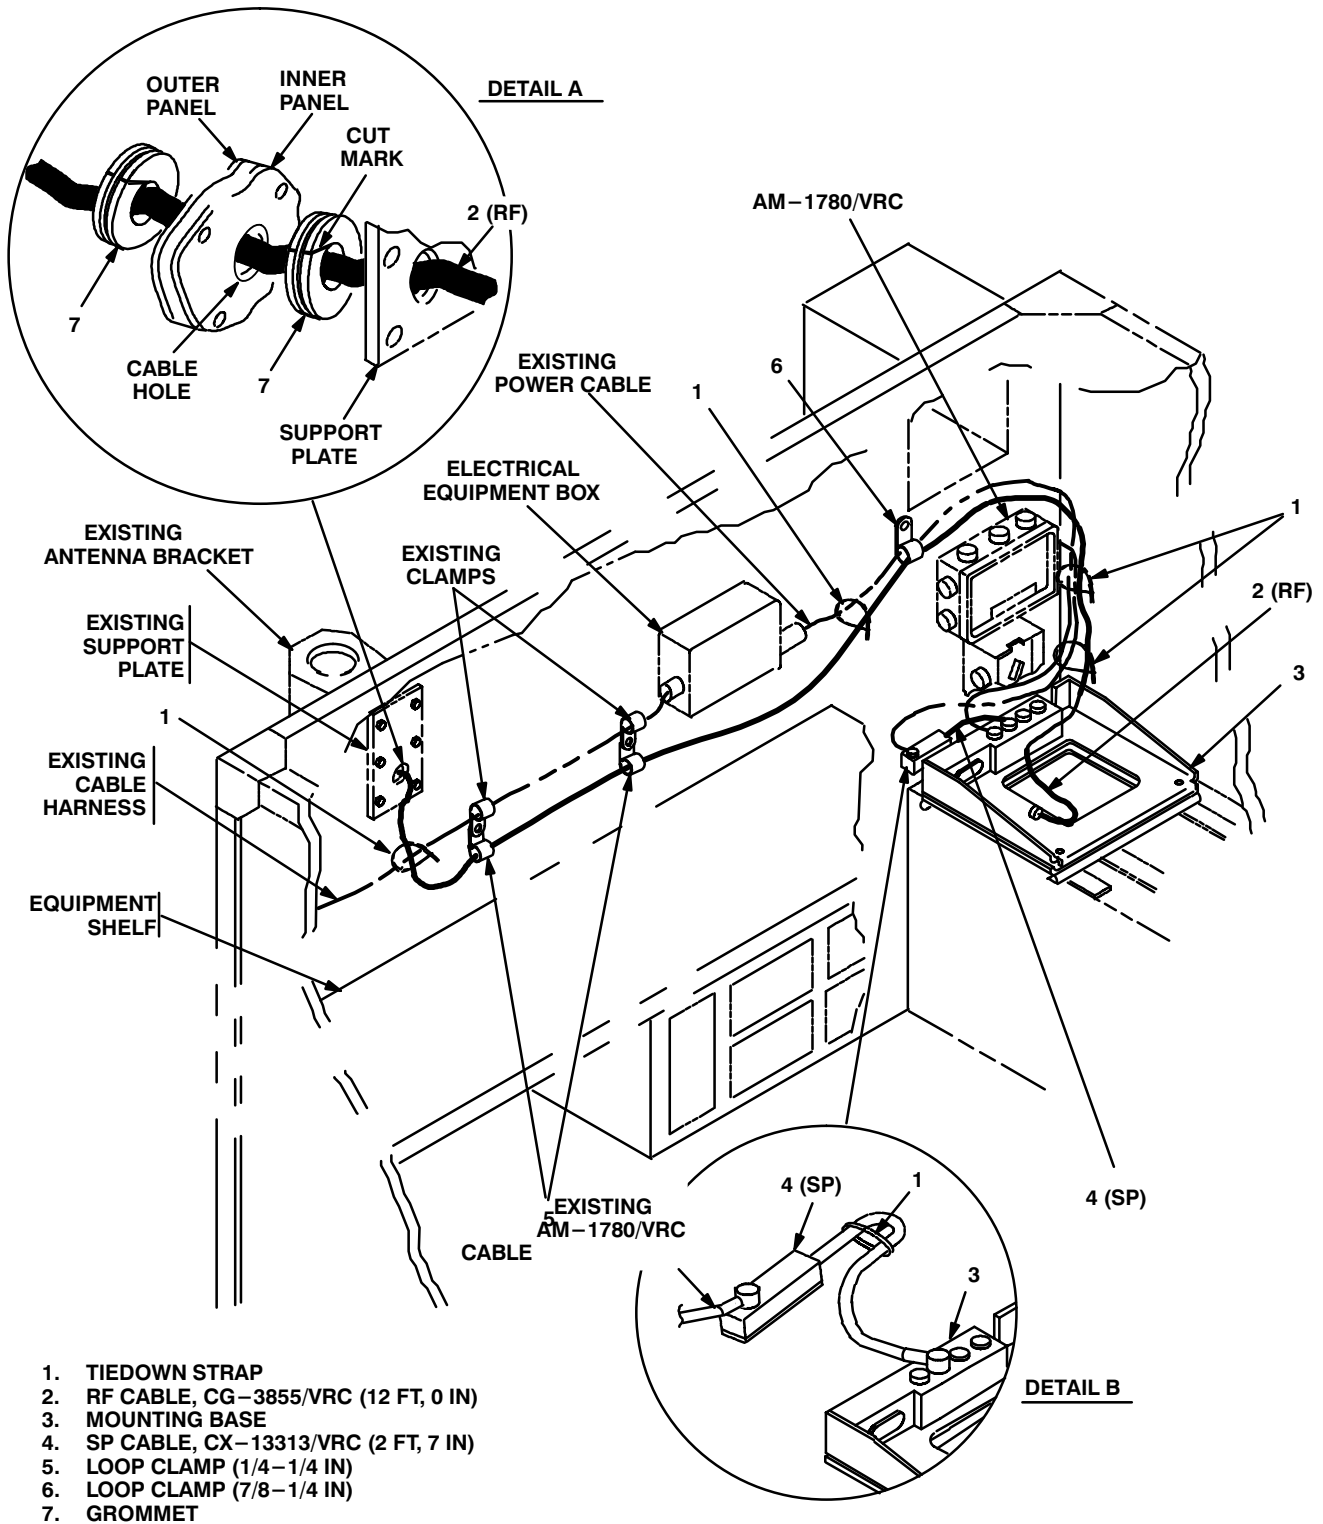

Figure 5-3. Cable Installation: Front Wall
o. SP cable (4) connector P2.	Connect and secure to mounting base (3) connector J3. See figure 5-3, detail B.
p. SP cable (4).	Position behind mounting base (3), then secure with tiedown strap (1).
q. Two tiedown straps (1).	Install loosely around RF cable (2), existing power cable and existing AM-1780/VRC cable. See figure 5-3 for location(s).
r. Existing power cable.	Position on top of mounting base (3). See figure 5-3.
f. Adhesive-sealant.	Apply to and around previously installed grommets (7). See figure 5-3.
g. Existing power cable.	Connect and secure to mounting base (3) connector J1.